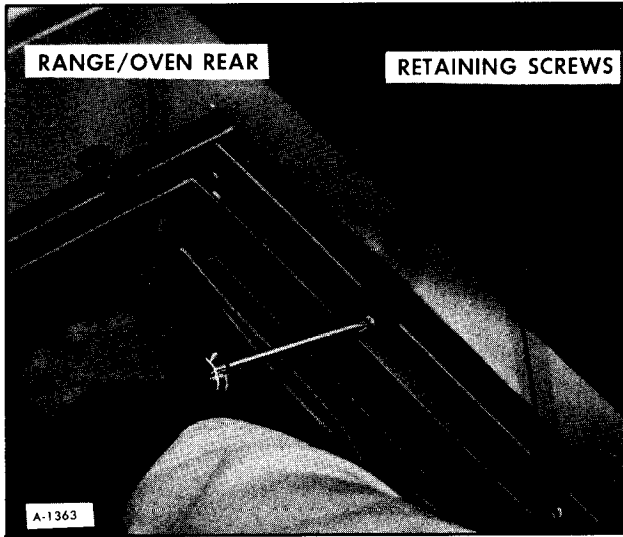

Figure 23—Removing Upper Range/Oven Anchor Screws
3. Remove the two screws through each upper side wall that hold unit to the cabinet top (figure 23).